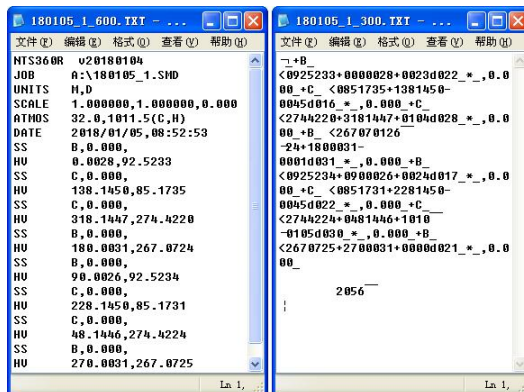

Figure2-12 Two exported measurement data files
⑤ Export the data of the current file "180105_1" to the SD card: press buttons (F4) (F4) to go to the function menu on page P3. Press buttons (F3) (File) (F2) (List) (F3) (EXP.) (Figure 2-12) to export the data of the current file 180105_1 to the following four files:
The left image of Figure 2-12 shows the exported measurement file "180105_1_600.txt". The right image shows the content of the exported measurement file "180105_1_300.txt".
The significance of data in the left image of Figure 2-12 is that there are two lines showing the data of each measuring point, among which the data format of line SS is "Point name, Target height, Code", and the data format of line HV is "reading of horizontal angle, reading of vertical angle".
to export the data of the files of cursor line to the root directory of SD card. The two files with the file name extension TXT are measurement data files, as shown in Figure 2-12. The file name extension .dat and .csv are the coordinate files of CAD and coordinate files at table format respectively.